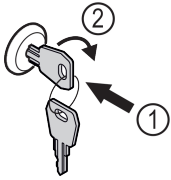

Fig. 58 Example illustration
- ▶ Insert key Fig. 58 (1).
- ▶ Turn key clockwise by 90° Fig. 58 (2).